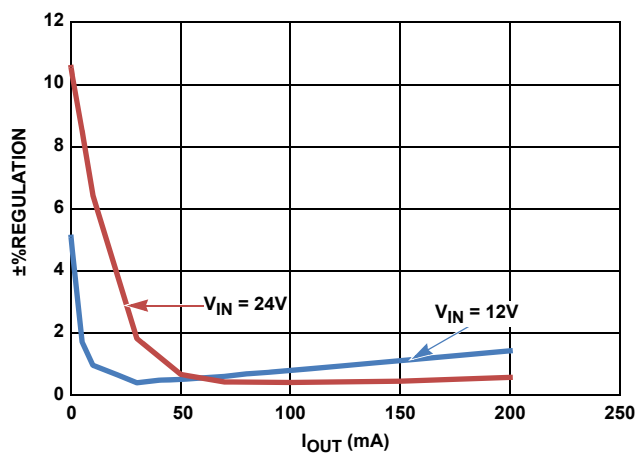
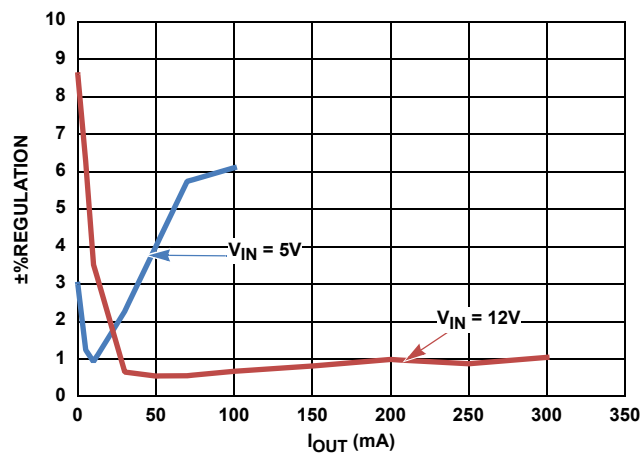

FIGURE 10. $V_{OUT} = 5\text{V}$, $\% \text{REGULATION}$ vs I_{OUT}
FIGURE 11. $V_{OUT} = 3.3\text{V}$, $\% \text{REGULATION}$ vs I_{OUT}
- Continuous output current up to 300mA (refer to Figures 10 and 11)
The curves in Figure 10 indicate the secondary output voltage regulation versus the load applied in the secondary output, without any load on the primary output for $V_{OUT} = 5V$, at different input voltages. The curves in Figure 11 indicate the secondary output voltage regulation versus the load applied in the secondary output, without any load on the primary output for $V_{OUT} = 3.3V$, at different input voltages.